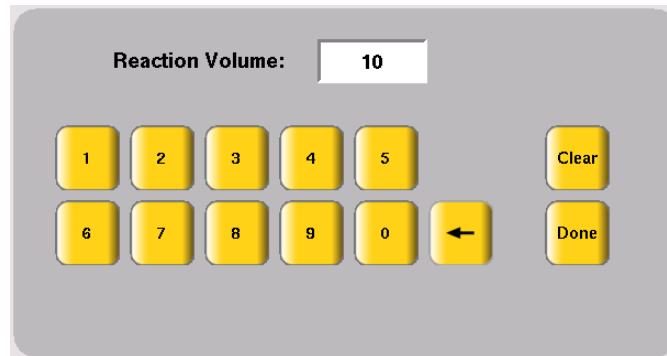

Figure 1-3 The Veriti™ Thermal Cycler numeric editor
**Entering Numerals** When you touch a field that requires only numerical input, the numeric editor opens (Figure 1-3).